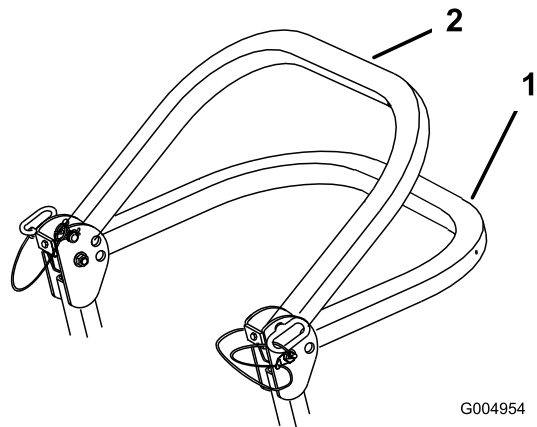

Figure 6
2. Lower the the roll bar to the down position. There are two down positions. See Figure 6 for the positions.